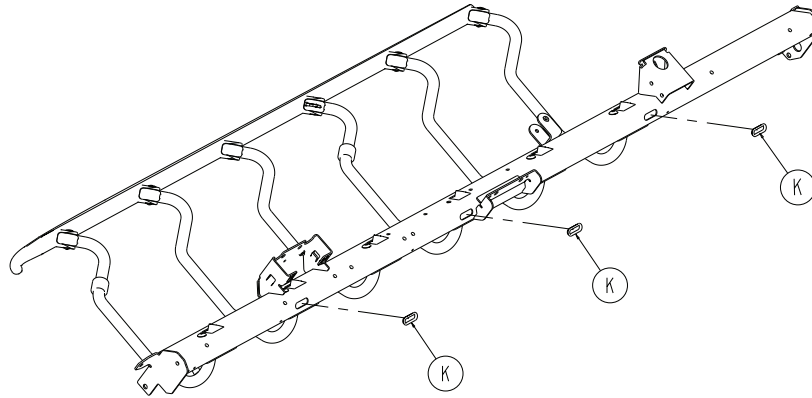

Figure 46 – Siderail grommets
9. Using wire cutters, cut the cable tie (A) that secures the display to nurse call extension cable assembly to the litter control box cable tie location. Discard the cable tie.
11. Using a pick, remove the three siderail grommets (K) from the patient right siderail tube (Figure 46). Save and hang the siderail grommets on the cables.